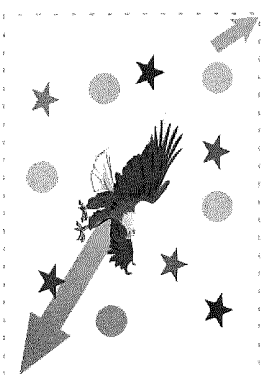

FIGURE 1-5 Marquee-selecting allows you to select or 'box' multiple objects.
- Marquee selecting using the **PICK TOOL**, or **SHAPE TOOL**. You can select all objects in a rectangular area by a **CLICK-DRAG** motion diagonally with the **PICK TOOL** as shown in Figure 1-5